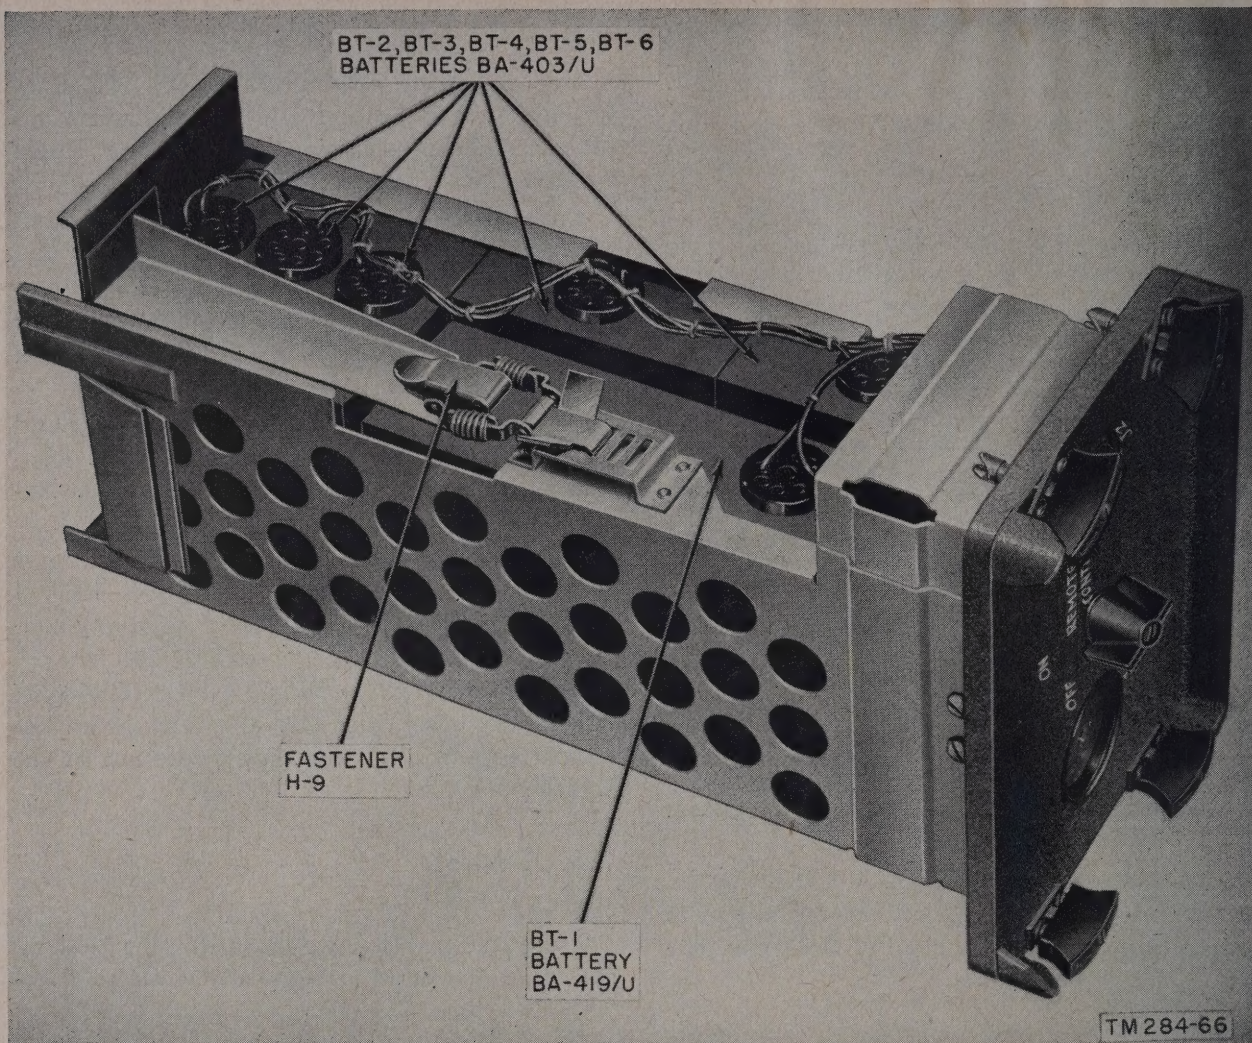

Figure 95. Case CY-590/GRC, case removed and batteries installed.
- (1) Case CY-590/GRC is a metal battery box which can be used with several of the units comprising Radio Sets AN/GRC-3 through -8. The facilities provided by the various installations are given in the chart in paragraph 164a.
- (2) The battery box contains five series-connected 1.5-volt Batteries BA-403/U and one 90-volt Battery BA-419/U which are held by a tray fastener to the case panel (fig. 94). To reach the battery tray, loosen the Dzus fasteners which connect the panel to the case. Slide the panel-tray assembly from the case (fig. 95).
b. Loosen the Dzus fasteners on the panel of the battery case. Remove the battery tray from the case (fig. 95).
c. Install five 1.5-volt Batteries BA-403/U and one 90-volt Battery BA-419/U in the case. Connect the batteries as indicated in figure 95. Replace the battery tray.
168. Set 1 With Generator G-8/GRC (figs. 95 and 96)